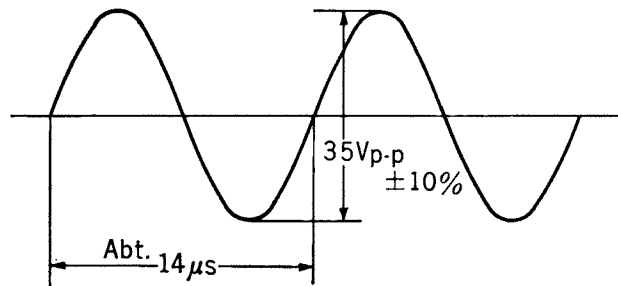

Fig. 14
2. Connect an oscilloscope to TP402 and set the audio level R403 at the minimum position. Confirm that the output waveform on the oscilloscope appears as sine wave symmetry without much distortion as shown in the Fig. 14.